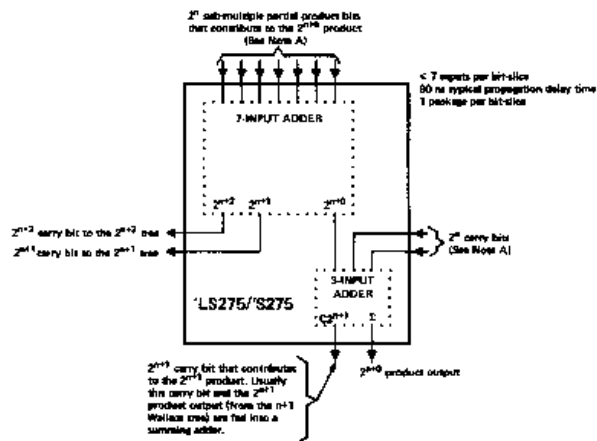
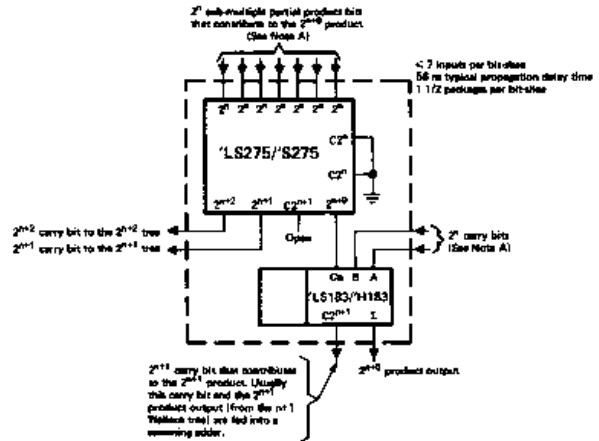

FIGURE 1—BASIC BIT-SLICE WALLACE TREE
FIGURE 2—HIGH-SPEED BIT-SLICE WALLACE TREE
*Each starred block may be either a basic bit-slice Wallace tree ('LS275 or 'S275 only) or a high-speed bit-slice Wallace tree ('LS275 plus 1/2 'LS183 or 'S275 plus 1/2 'H183). In either case the function of the terminal is the same as the similarly located terminal of the basic bit-slice (Figure 1) or high-speed bit-slice Wallace tree (Figure 2). Also for either tree, when only five inputs of the seven-input adder of the 'LS275/'S275 are used, the remaining two inputs must be grounded. When the high-speed adder is used, the C²ⁿ inputs of the 'LS275/'S275 must be grounded.